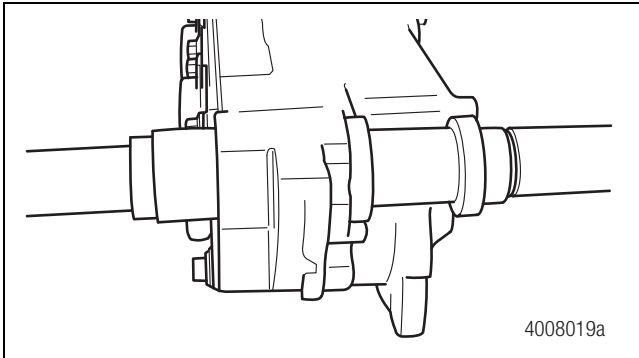

Figure 6.43
2. Place a suitable driver from Meritor tool MST1000 onto the bushing and install the bushing into the housing bore. Figure 6.43.